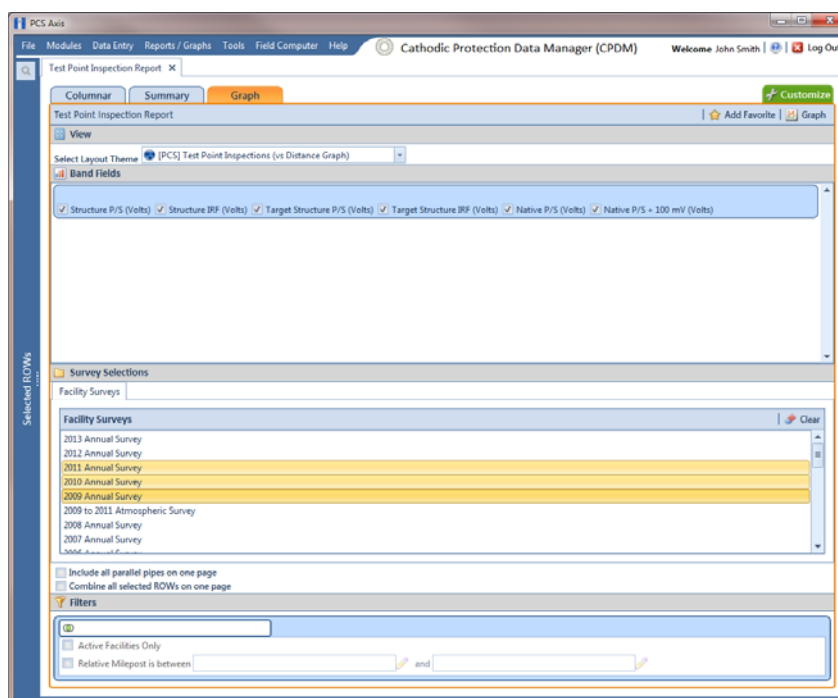

Figure 15-26. Test Point Inspection Graph Report
- 3 Click the **Graph** tab  to open a property settings window. For example, the next figure shows the property settings window for the *Test Point Inspection* graph (Figure 15-26, page 643).